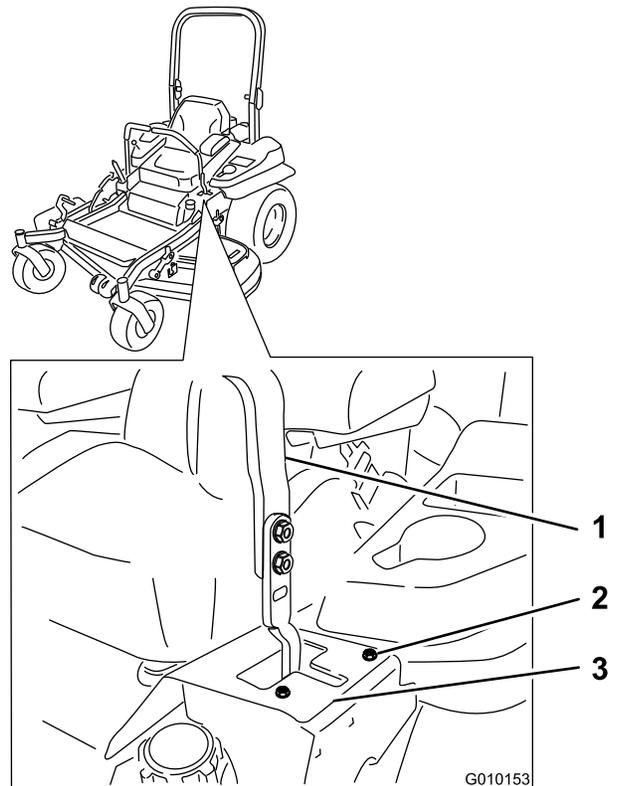

Figure 68
- If the machine tracks to the right, loosen the bolts and adjust the left stop plate rearward on the left T-slot until the machine tracks straight (Figure 68).
- If the machine tracks to the left, loosen the bolts and adjust the right stop plate rearward on the right T-slot until the machine tracks straight (Figure 68).
8. Tighten the stop plate (Figure 68).